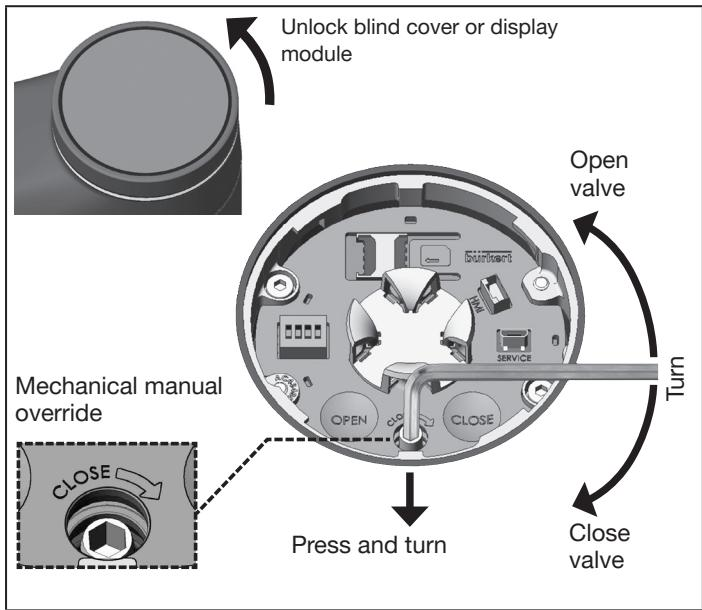
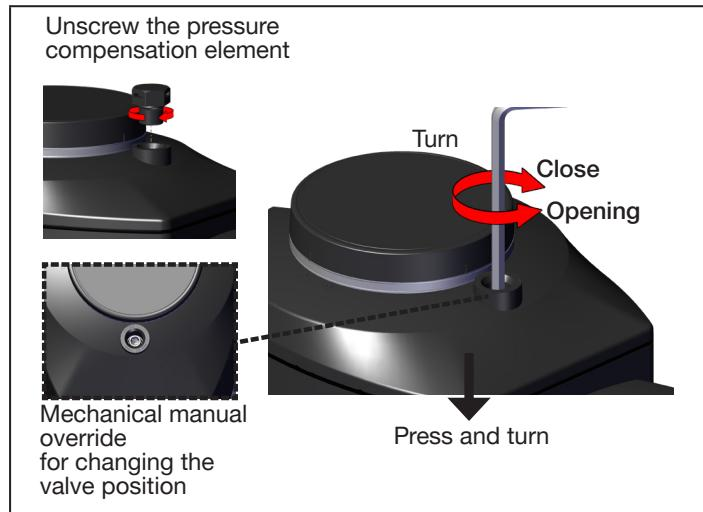

Fig. 28: Mechanical manual override AG2
Fig. 29: Mechanical manual override AG3
- Apply light pressure to lock the mechanical manual override mechanism into place while turning the Allen key at the same time (see “Fig. 28” and “Fig. 29”).